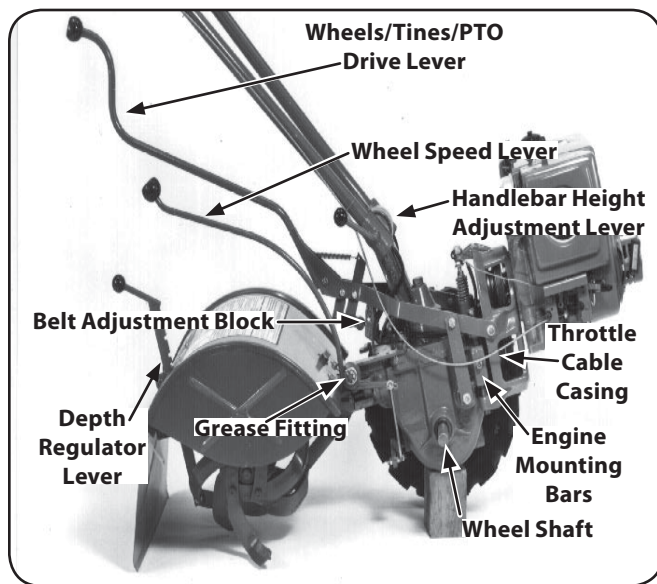

Figure 6-10
1. Oil the wheel shaft between the wheel hubs and the transmission housing. See Fig. 6-10.
2. Oil all pivoting and connecting points on the Wheels/Tines/PTO Drive Lever and the Wheel Speed Lever. See Fig. 6-10.
3. Grease the face of the belt adjustment block. See Fig. 6-10.
4. Oil the Depth Regulator Lever, including the spring in the mounting bracket. See Fig. 6-10.
5. Oil the full length of the throttle cable casing. Oil threads on Handlebar Height Adjustment Lever. See Fig. 6-10.
6. Grease the left- and right-side engine mounting bars at the top, middle and bottom. See Fig. 6-10.
7. Grease the zerk grease fitting located on the pivot point at the end of the Wheel Speed Lever. See Fig. 6-10. If the Wheel Speed Lever has a grease fitting on the pivot assembly, apply 2-to-3 strokes of multipurpose grease at beginning and end of tilling season.